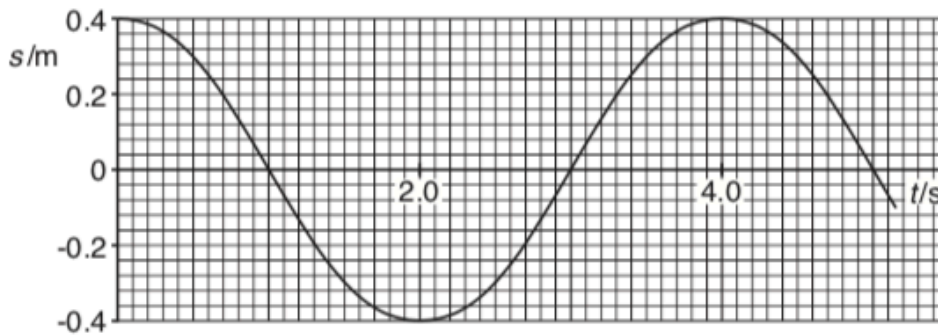

Fig. 6.2
- (e) One end of the spring is fixed and a mass is hung vertically from the other end. The mass is pulled down and then released. The mass oscillates up and down. Fig. 6.2 shows the displacement  $s$  against time  $t$  graph for the mass.
Explain how you can use Fig. 6.2 to determine the **maximum** speed of the mass. You are not expected to do the calculations.